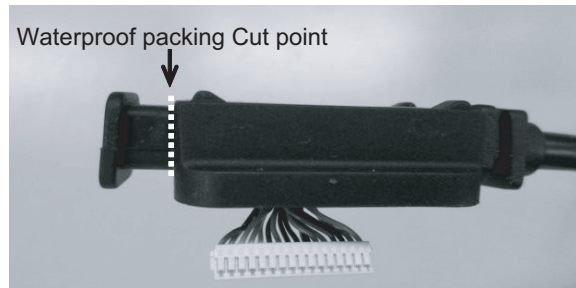

Fig.2
Cut a part of the waterproof packing of KCT-71 along the dotted line with a cutting tool so as to make the hole for the passage of another connector wire. (Fig. 2)
Step 1: Cut a part of the waterproof packing of KCT-71(KRK-14H side) with a cutting tool so as to make the hole for the passage of another connector wire. (Refer to "2.1.8.5.1 Installing the Dual RF Deck and Single Control Head" Step1 Fig. 2.)